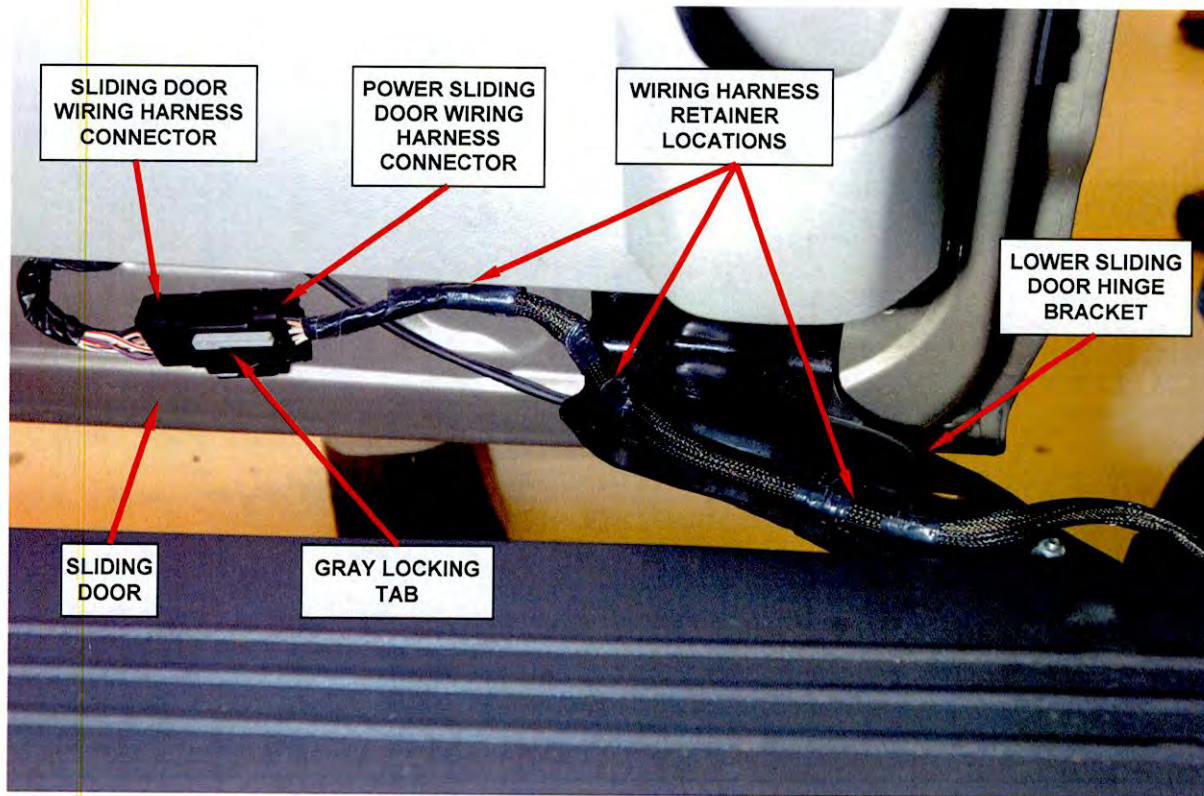

Figure 4 – Power Sliding Door Wiring Harness Removal (Driver's Side Shown)
9. Disconnect the 10 way power sliding door wiring harness connector from the sliding door wiring harness connector by first pushing the gray locking tab upward (downward on the passenger side). Then push down on the release tab while separating the connector (Figure 4).
10. Remove the power sliding door wiring harness from the sliding door and lower hinge bracket by carefully pulling the wiring harness retainers out of the retention holes (Figure 4).
24. Insert the power sliding door wiring harness retainers into the lower hinge and sliding door retention holes (Figure 4).
25. Connect the 10 way power sliding door wiring harness connector to the sliding door wiring harness connector and slide the gray locking tab downward (upward on the passenger side of the vehicle) (Figure 4).